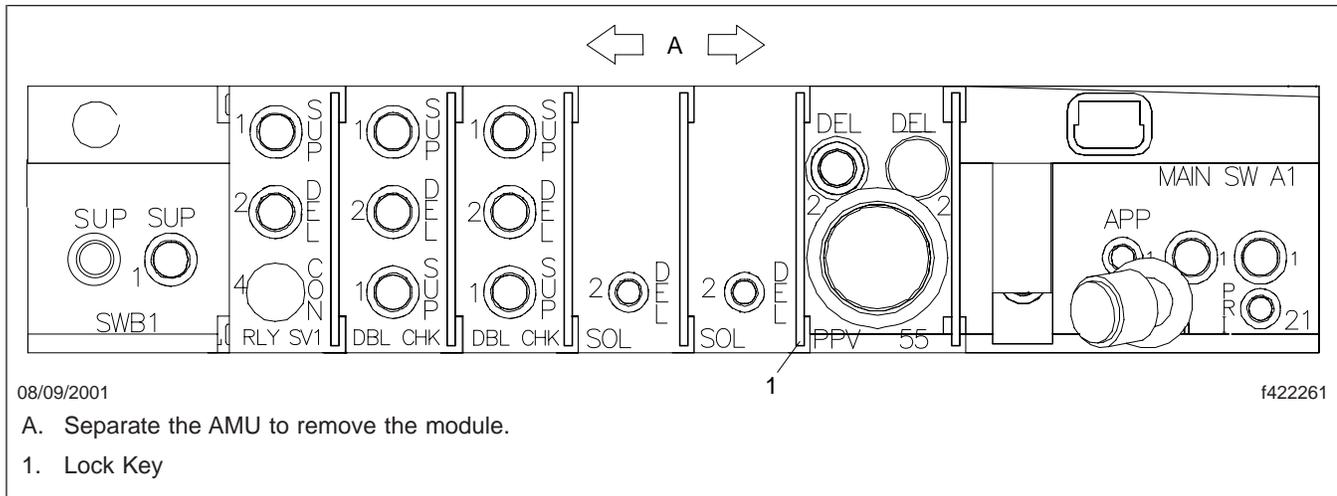

**Fig. 2, Air Management Unit (AMU)**
mounting bracket. See **Fig. 2**. This will allow the AMU to separate, allowing for easy removal of the module.
12. Firmly tighten the bolts on the L-bracket, securing the AMU in the mounting bracket. See **Fig. 2**.